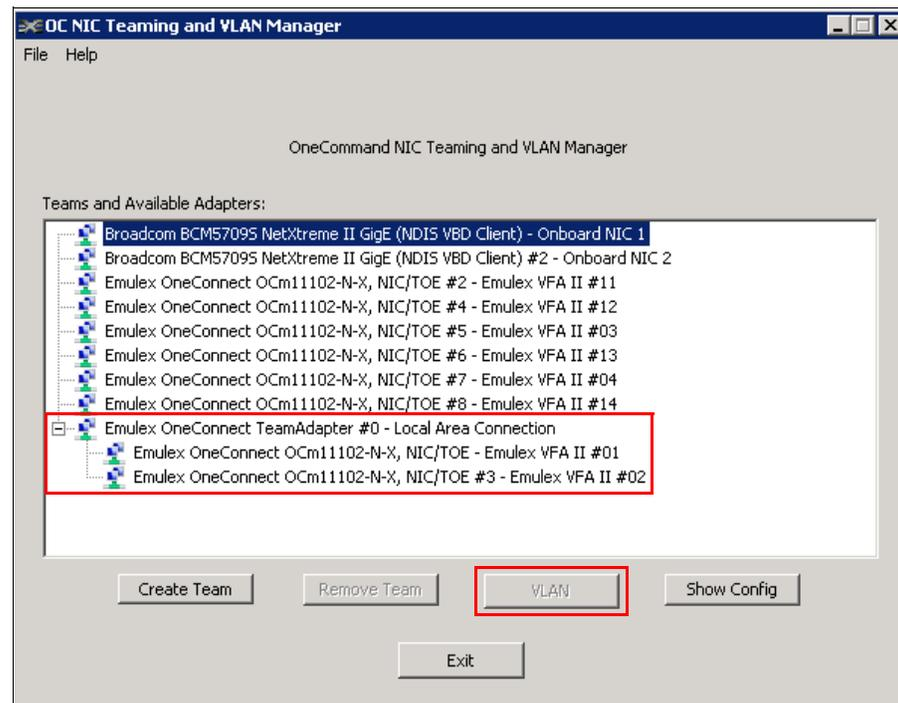

Figure 5-35 Configuring a new team
1. In the OC NIC Teaming and VLAN Manager window (Figure 5-35), in the Team and Available Adapters area, select the physical or team adapter to which you want to add a VLAN. Then click **VLAN**.
**Tip:** In the OC NIC Teaming and VLAN Manager window (Figure 5-35), if you select TeamAdapter #0 only, the VLAN is available for you to select it. In this window, you can see and confirm the adapter settings.